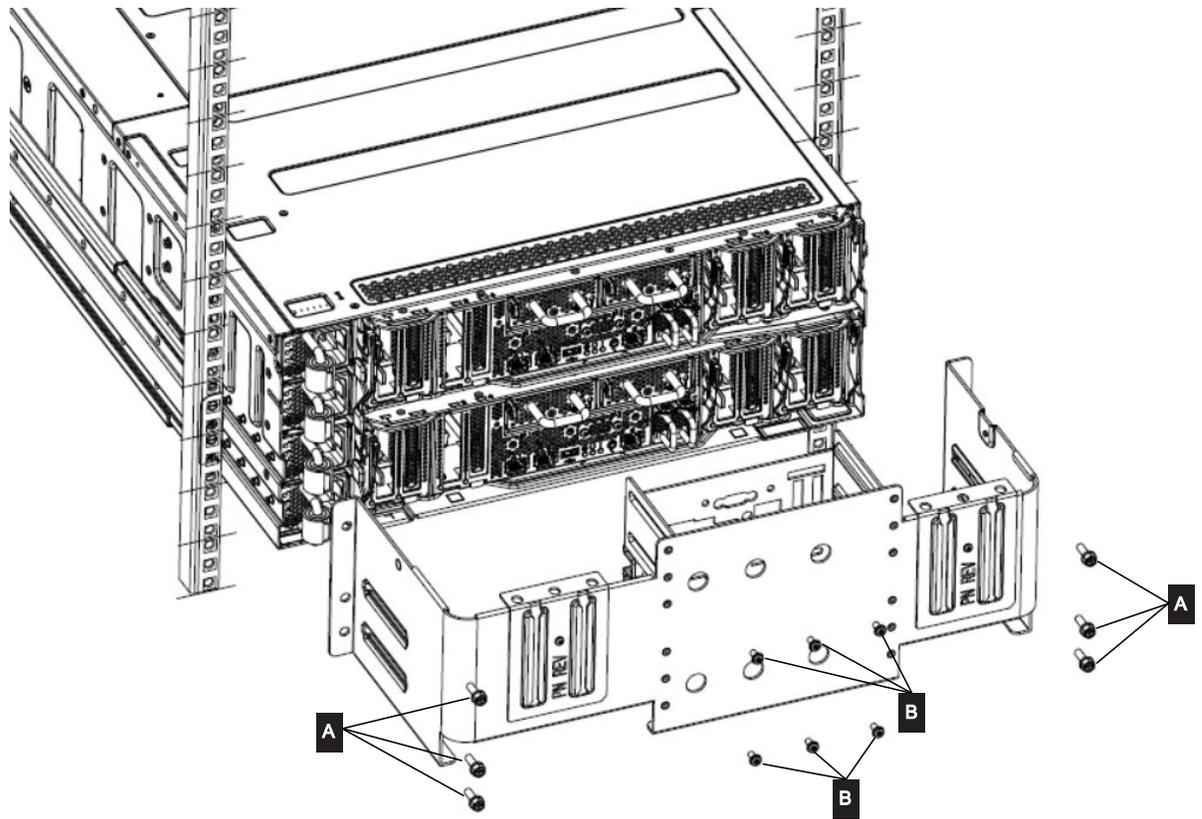

Figure 243. Removing the shipping bracket from the back of a control enclosure.
1. Remove the 3 screws shown as A in Figure 243 on page 328 on each side of the shipping bracket
2. Remove the 6 screws shown as B in Figure 243 on page 328 holding the middle of the shipping bracket to the back of the control enclosure.